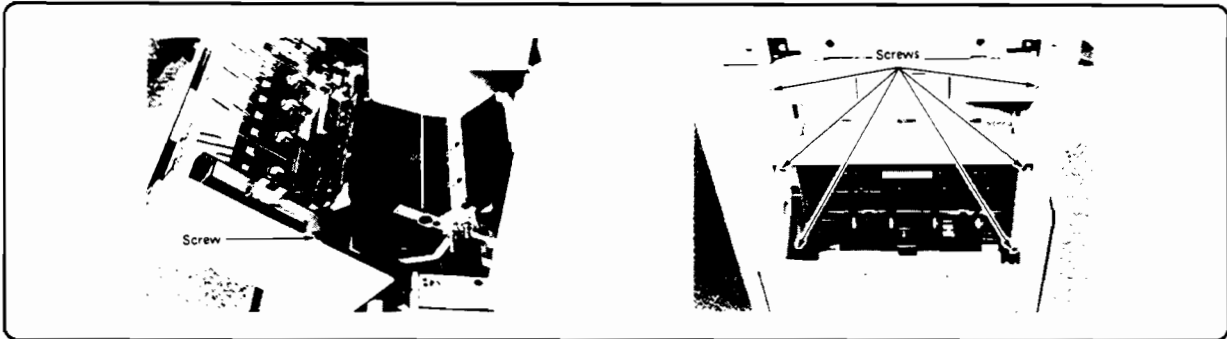

Figure 6-120. Switchback Feeder Cover Removal
3. Remove the switchback feeder cover (seven screws) (Figure 6-120).